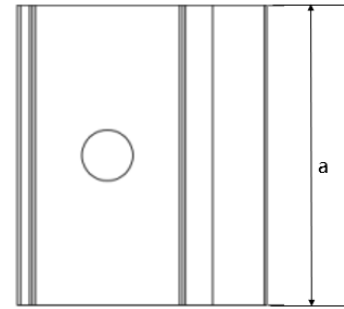
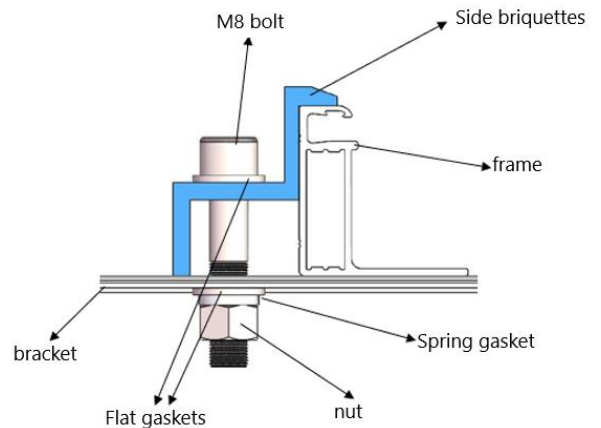

Figure 14 Top view of fringe clamp
Figure 16 Installation schematic diagram of fringe clamp
- ① Place the module on the two supporting rails (not provided by Astronergy) which should be made with stainless material and treated with an anti-corrosion process (e.g. hot dipped galvanizing). Each PV module needs at least four clamps to be fixed. The module clamps should not come into contact with the glass and should not deform the frame, otherwise they may cause module damage.
- ② Be sure to avoid shadowing effects from the module clamps. Weep holes on the module frame must not be closed or obscured by the clamps. The clamp must have at least 8mm but no more than 11mm overlap with the frame of the module (The clamp section can be changed under the premise of ensuring reliable installation).
- ③ The top surface of the rail contacted with module frame should be equipped with grooves compatible with an M8 bolt.
- ④ If the grooves are not provided, holes of a suitable diameter may need to be drilled to allow bolts attaching to the rail at the same locations as mentioned above.
- ⑤ Ensure that the mounting sequence of each clamp is in the order of flat washer, spring washer and nut.
- ⑥ Figures 14 and 15 show the schematic diagram of the clamp, while Figures 16 and 17 show the installation schematic diagram of the clamp. The dimensions of the clamp are  $a \geq 40$  mm,  $b \geq 16$  mm,  $c \geq 5$  mm,  $d \geq 8$  mm,  $e \geq 15$  mm,  $\varnothing = 9$  mm, and the thickness of the clamp is  $\geq 3$  mm. For module of 182/210mm-wafer, the size of mid and fringe clamp must meet  $a \geq 60$  mm. The tightening torque is suggested to be 17~23Nm for Class 8.8